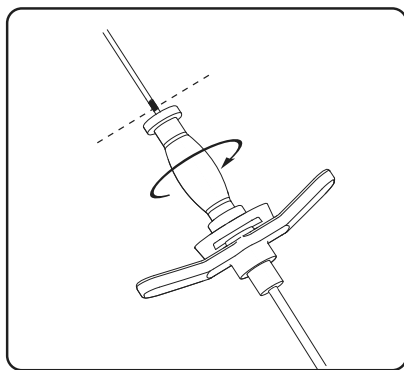
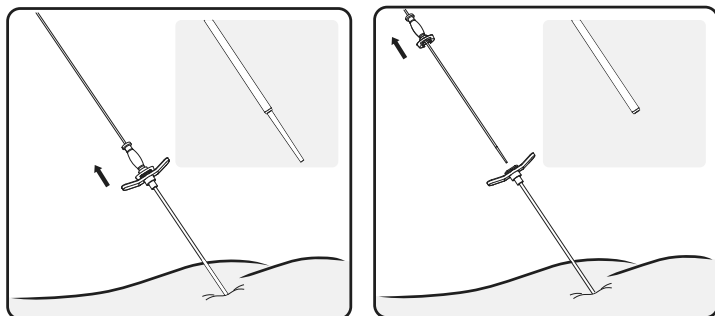

Figure 11. Unlock dilator from introducer sheath
Figure 12. Remove the directional guide and dilator.
6. Rotate the dilator 90 degrees to unlock it from the introducer sheath (**Figure 11**). Being careful to leave the introducer sheath in place, remove the directional guide and dilator (**Figure 12**).